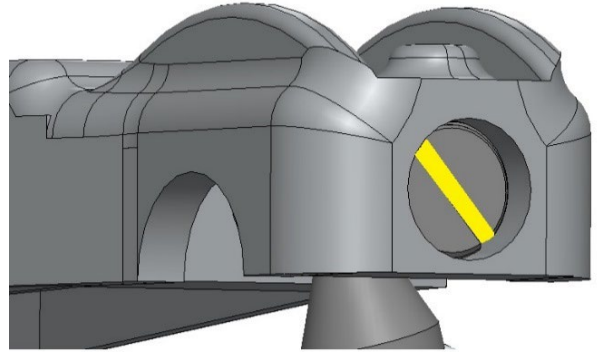

Figure 20: Yoke Rear Pivot Stud
- 6.6.1. Some adjustments critical to the function of the switch are made at the factory and should not be attempted in the field without the direction or supervision of Southern States Field Service technical staff. Refer to Figures 20, 21, and 22 for examples of these critical factory adjustments.